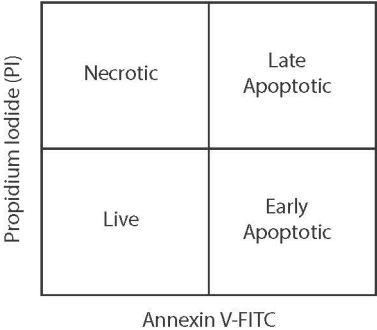

Figure 1. Illustration of expected staining of live and dead cell populations using Cayman’s Annexin V FITC Assay Kit.
Cayman’s Annexin V FITC Assay Kit employs a FITC-conjugated annexin V as a probe for phosphatidylserine on the outer membrane of apoptotic cells. Propidium iodide (PI) is used as a marker of cell membrane permeability (see Figure 1). This kit is valuable for researchers looking to assess the degree of apoptosis induced by experimental compounds, and can be useful in pharmacology, immunology, cancer or physiology research. The reagents provided in the kit are sufficient to run 500 samples when using a 96-well plate format.